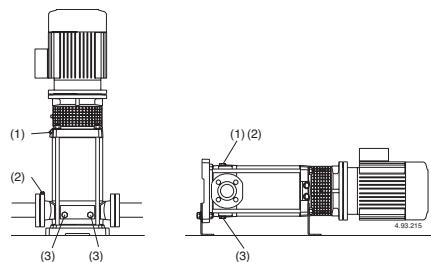
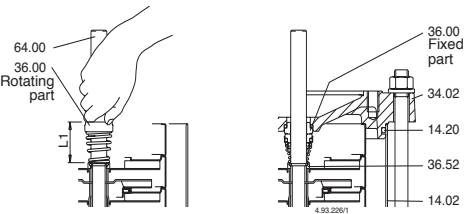

Fig.4 (1) Filling and air vent
Fig.5 Inserting the mechanical seal
When the pump is located above the water level (suction lift operation, **fig. 3A**) or with a positive suction head which is too low (less than 1 m) to open the non-return valve, fill the suction pipe and the pump through the priming hole (1) (**fig. 4**).
(2) Suction side air vent
(3) Draining
When the liquid level on the suction side is above the pump (inflow under positive suction head, **fig. 3B**), fill the pump by slowly and completely opening the inflow gate valve while keeping the delivery gate valve and air vent holes (1), (2) (**fig.4**) open to release the air.
Close the air vent holes (1), (2) (**fig.4**), for MXV-B, MXV(L) 25-32-40 e MXV(L)4 25-32-40 Tighten the needle screw (14.17) in the drainage plug (14.12) (**fig. 4b**) and close the air vent hole (14.04).
If a priming loss occurs (interruption of delivery flow, despite opened gate valves) or if a pressure oscillation is indicated on the pressure gauge, repeat the venting operation on the suction side (2), make sure all the suction pipe couplings are perfectly sealed and tighten the air vent plug (2) and the draining plugs (3) on the suction side (**fig.4**).
Or, after draining, perform the washing operation, inserting clean water (at least 40 litres) into the filling hole (1) on the delivery side and allowing it to come out of the draining hole (3) on the suction side (fig.4).
Before dismantling, close the gate valves in the suction and delivery pipes and empty the pump casing (fig. 4). For dismantling and re-assembly refer to the section drawing (section 14.) and figures 5, 6. Dismantling and inspection of all internal parts can be carried out without removing the pump casing (14.00) from the pipeline.
Push the rotating part as far as the shoulder ring (36.52) on the shaft (64.00), without compressing the spring. Check the length before and after insertion and raise the rotating ring as far as the initial length (L1 in fig.5).